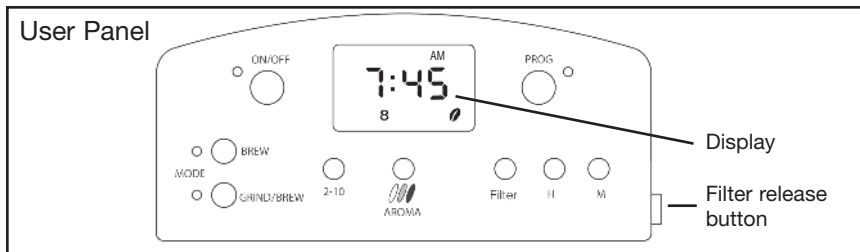

Fig. 2
| 3. Filter holder                    | 10. User panel (Fig. 2)        |
- Push the BREW button, then the ON/OFF button (Fig. 2). The machine starts processing the water into the carafe.
Plug in machine. The display shows “0:00” blinking and either the “BREW” or the “GRIND/BREW” light is illuminated (Fig. 2).